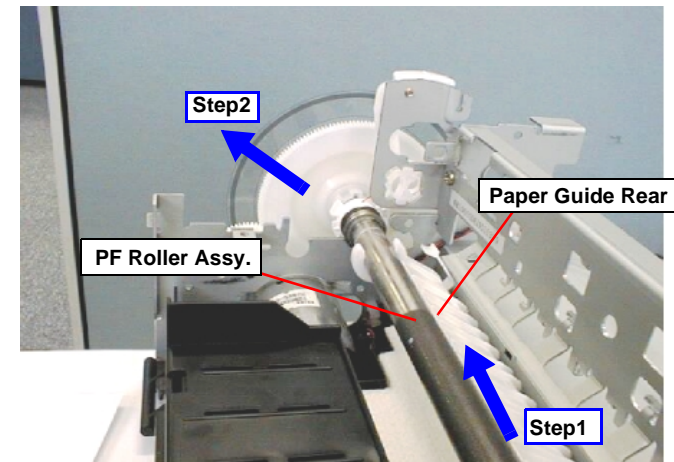

Figure 4-56. Removing the PF Roller Assembly
- 17) Slide the PF Roller Assembly to the left side carefully and pull it out from the Printer Mechanism. Refer to Figure 4-56.